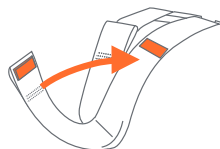

Fig. 33-2
12. Fold webbing over metal plate and secure with hook and loop fastener (Fig 33-2).